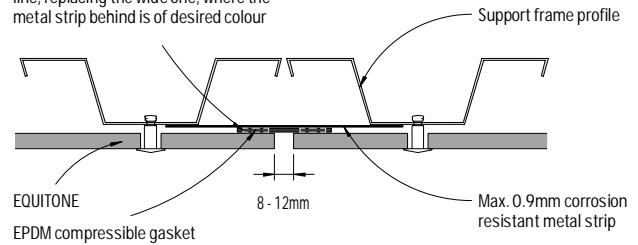

Figure 6: Vertical joint - Detail 2
2) In Figure 6 & 7, the metal strip should be fixed ONLY to one of the support frame profiles (either left or right) where allowance for horizontal and/or vertical movement of the cladding frame is required.